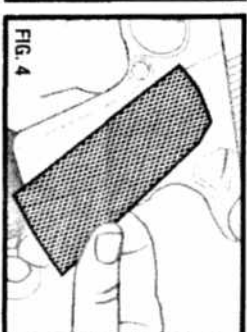

FIG. 4
C. Remove left grip cover by lifting the grip cover tab (Fig. 4).